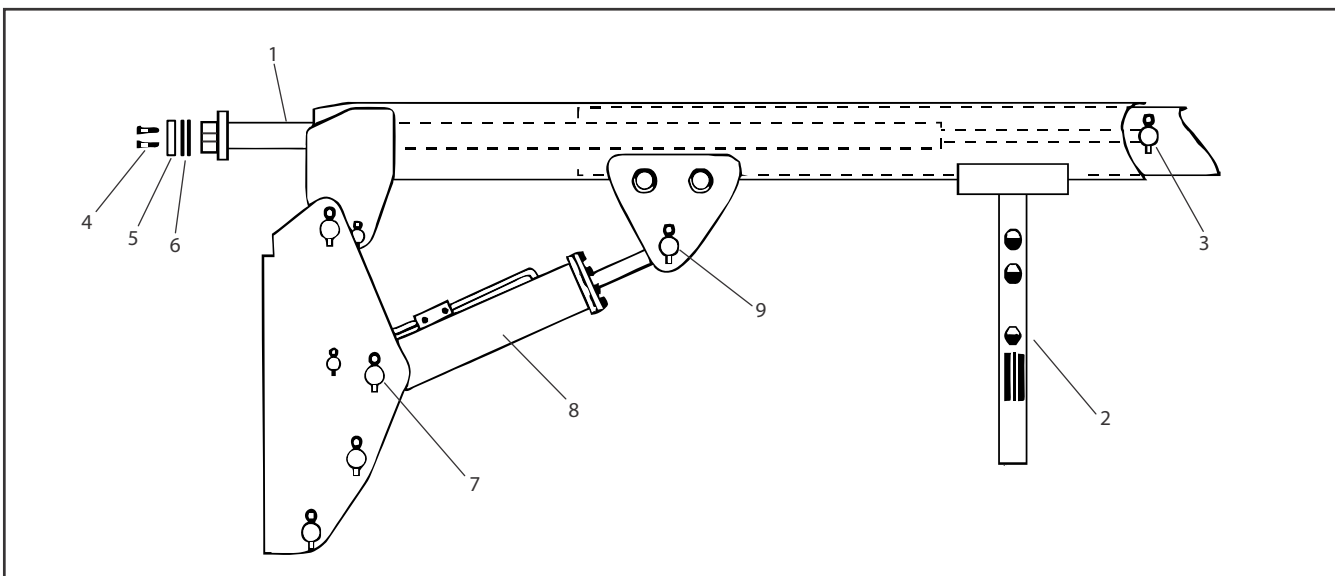

Figure 5-3. Telescope and Lift Cylinder Installation
1. Place machine on a flat and level surface, with main boom horizontal. Shut down engine and prop boom See Figure 5-3., Telescope and Lift Cylinder Installation.
1. With boom positioned as in Figure 5-3., Telescope and Lift Cylinder Installation, slide telescope cylinder into boom, aligning cylinder port block end with slotted holes in Base Boom. Secure telescope cylinder with mounting hardware.